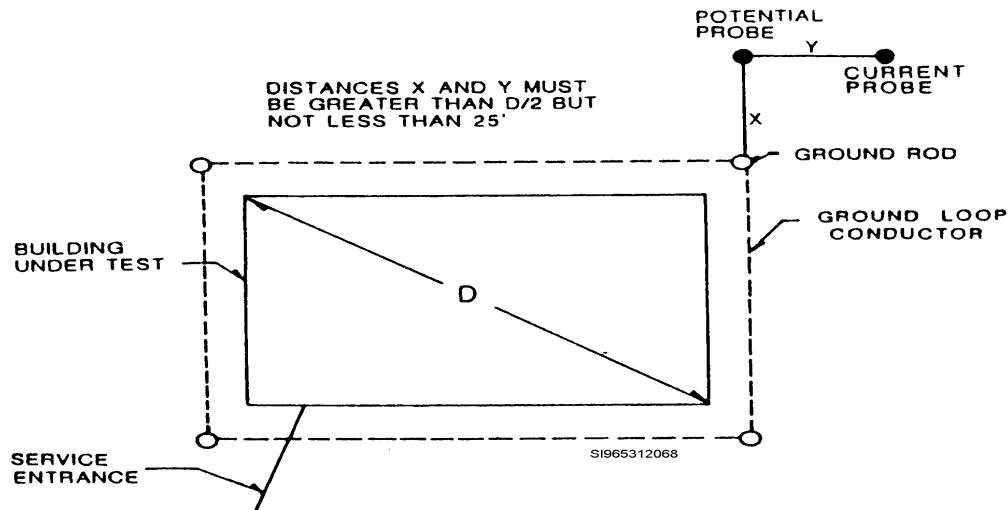

Figure 1, Auxiliary Probe Locations for Fall-Of Potential Ground Resistance Test
- In Figure 1, you see auxiliary probe locations for fall-of-potential ground-resistance tests.